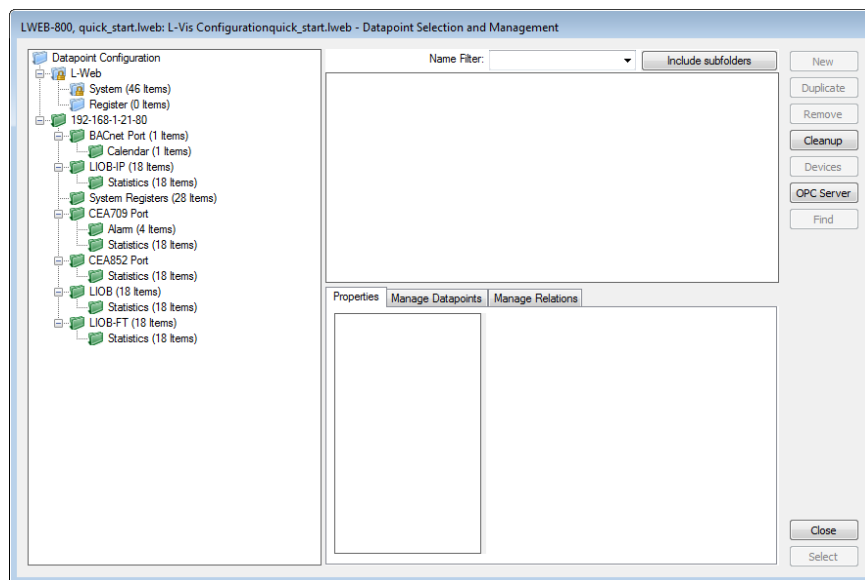

Figure 85: Data Point Dialog
- 1) In the L-VIS Configurator open the data point dialog as shown in Figure 85 and press on the **OPC Server** button.